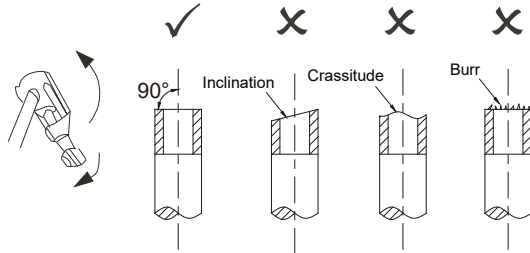

Figure 5.4
1) Cut off the pipe with a pipe cutting knife (See Figure 5.4).